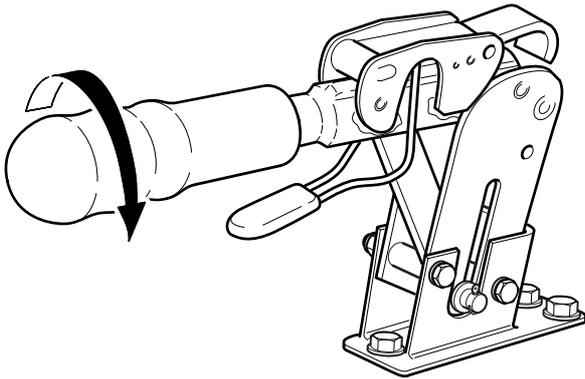

Fig 11.
- 2 Release the park brake lever and ensure the adjusting capability of the lever is in the FULLY ADJUSTED position, by turning the lever handle as shown until the stop is reached. → Fig 11. (□ 3-24).